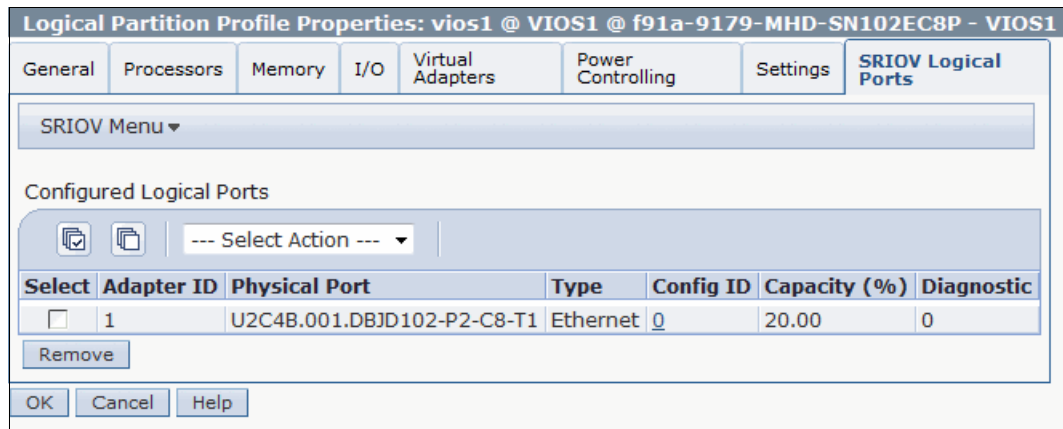
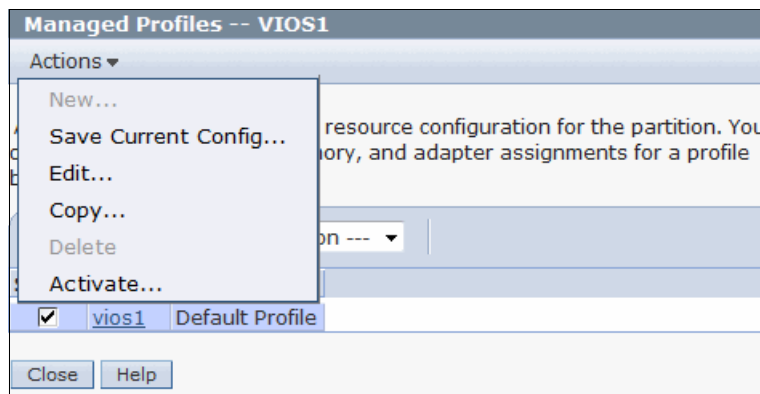

Figure 4-28 Logical port added to profile.
Figure 4-29 Partition activation
- With the port added to the profile, as shown in Figure 4-28, reconfigure the partition using the `cfgmgr` command if the DLPAR operation is used, or activate the partition with the new profile, as shown in Figure 4-29.